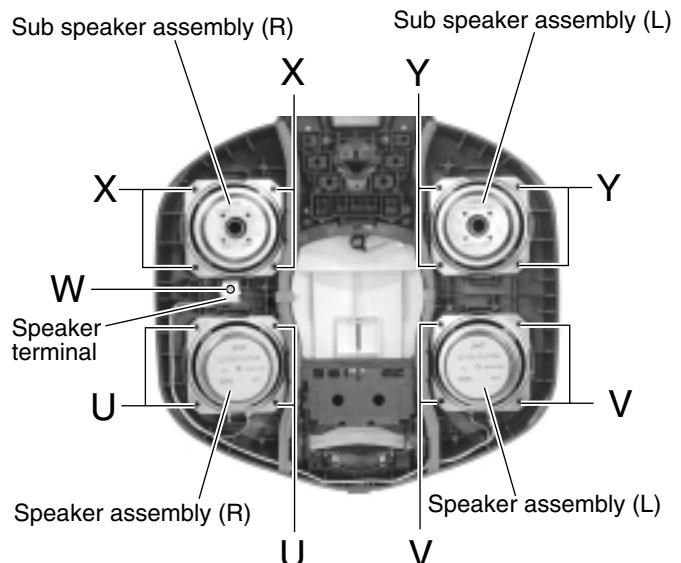

Fig.28
### ■ Removing the speaker assembly (R) and (L) (See Fig.28)
- Remove the four screws **U** attaching the speaker assembly (R).
- Remove the four screws **V** attaching the speaker assembly (L).
### ■ Removing the sub speaker assembly (R) and (L) (See Fig.28)
- Remove the four screws **X** attaching the sub speaker assembly (R).
- Remove the four screws **Y** attaching the sub speaker assembly (L). If necessary, disconnect the wire from each speaker terminal.